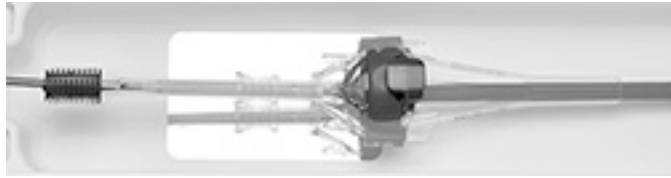

Figure 23
15. Continue to advance the capsule until the distal end of the capsule guide tube covers the distal end of the commissure pad of the bioprosthesis (Figure 23). The capsule guide tube should completely cover the commissure pad.